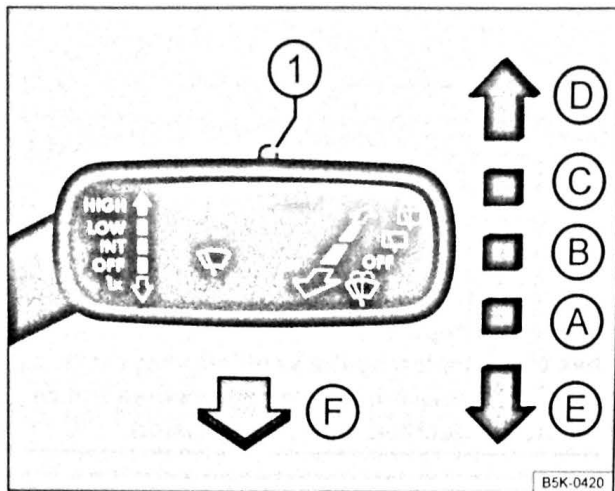

Fig. 86 Operating the front windscreen wiper
- Briefly press down the windscreen wiper lever ⇒ Fig. 86 (E). ▶